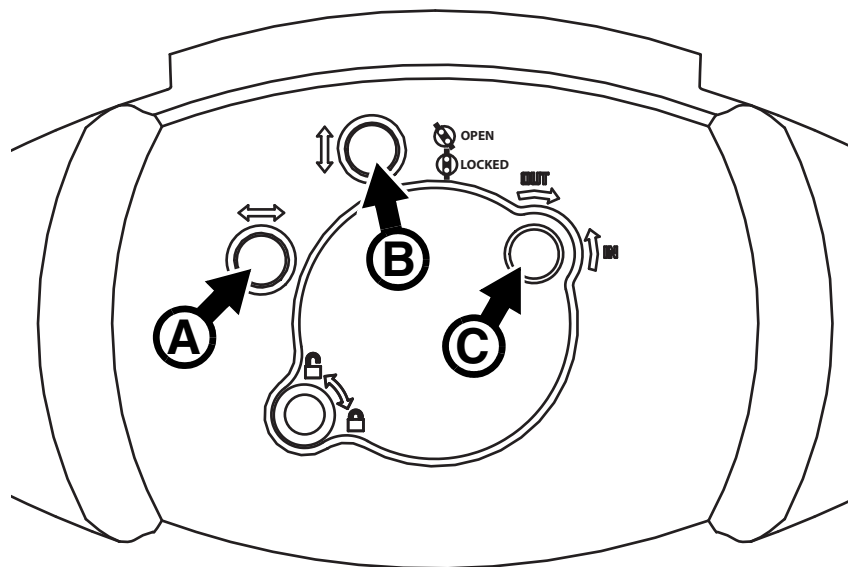

Figure 11: Lamp adjustment
4. See Figure 11. Turn the three Torx 20 lamp adjustment screws **A**, **B** and **C** to obtain the most even beam.